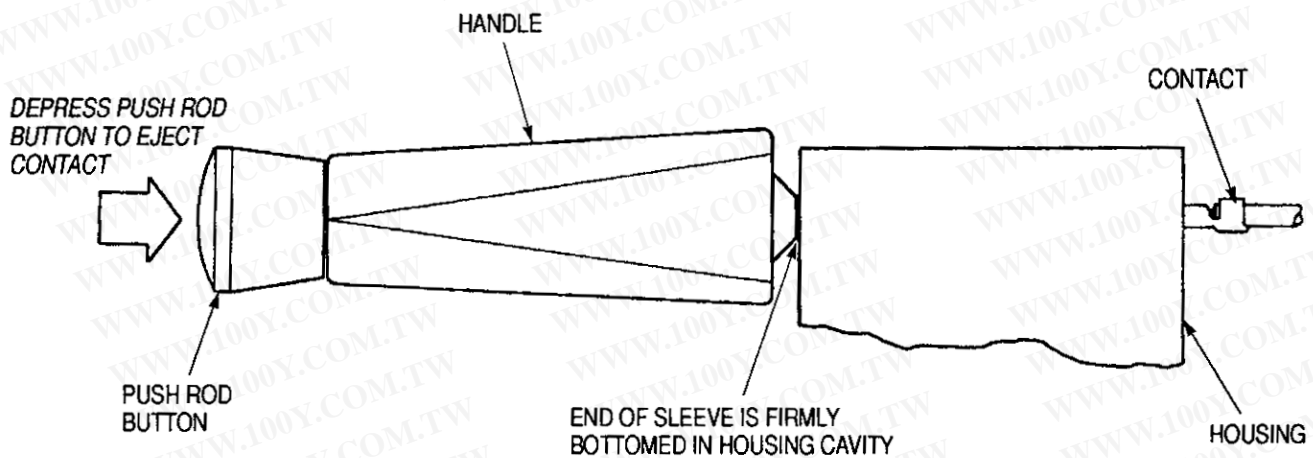

Figure 3
4. Keep the sleeve firmly bottomed in the cavity and depress the push rod button. The contact will eject as the button is depressed. See Figure 3.